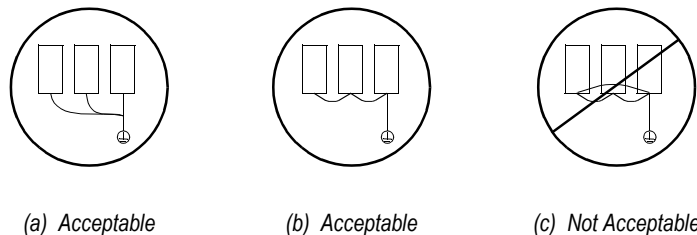

Figure 12 Grounding Example of 3 VS-616G5 Inverters
- When using several VS-616G5 units side by side, ground the units as shown in Figure 12, (a) or (b). Do not loop the wires as shown in (c).